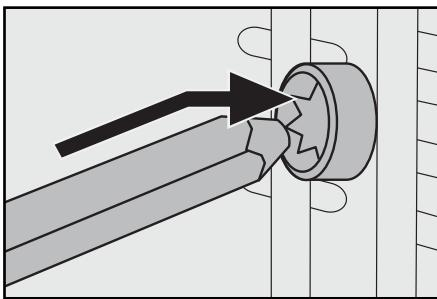

Fig. 1: Push the rotisserie 16 into the drive 1.
- First push the end of the rotisserie 16 without the notch into the drive 1 (Figure 1):